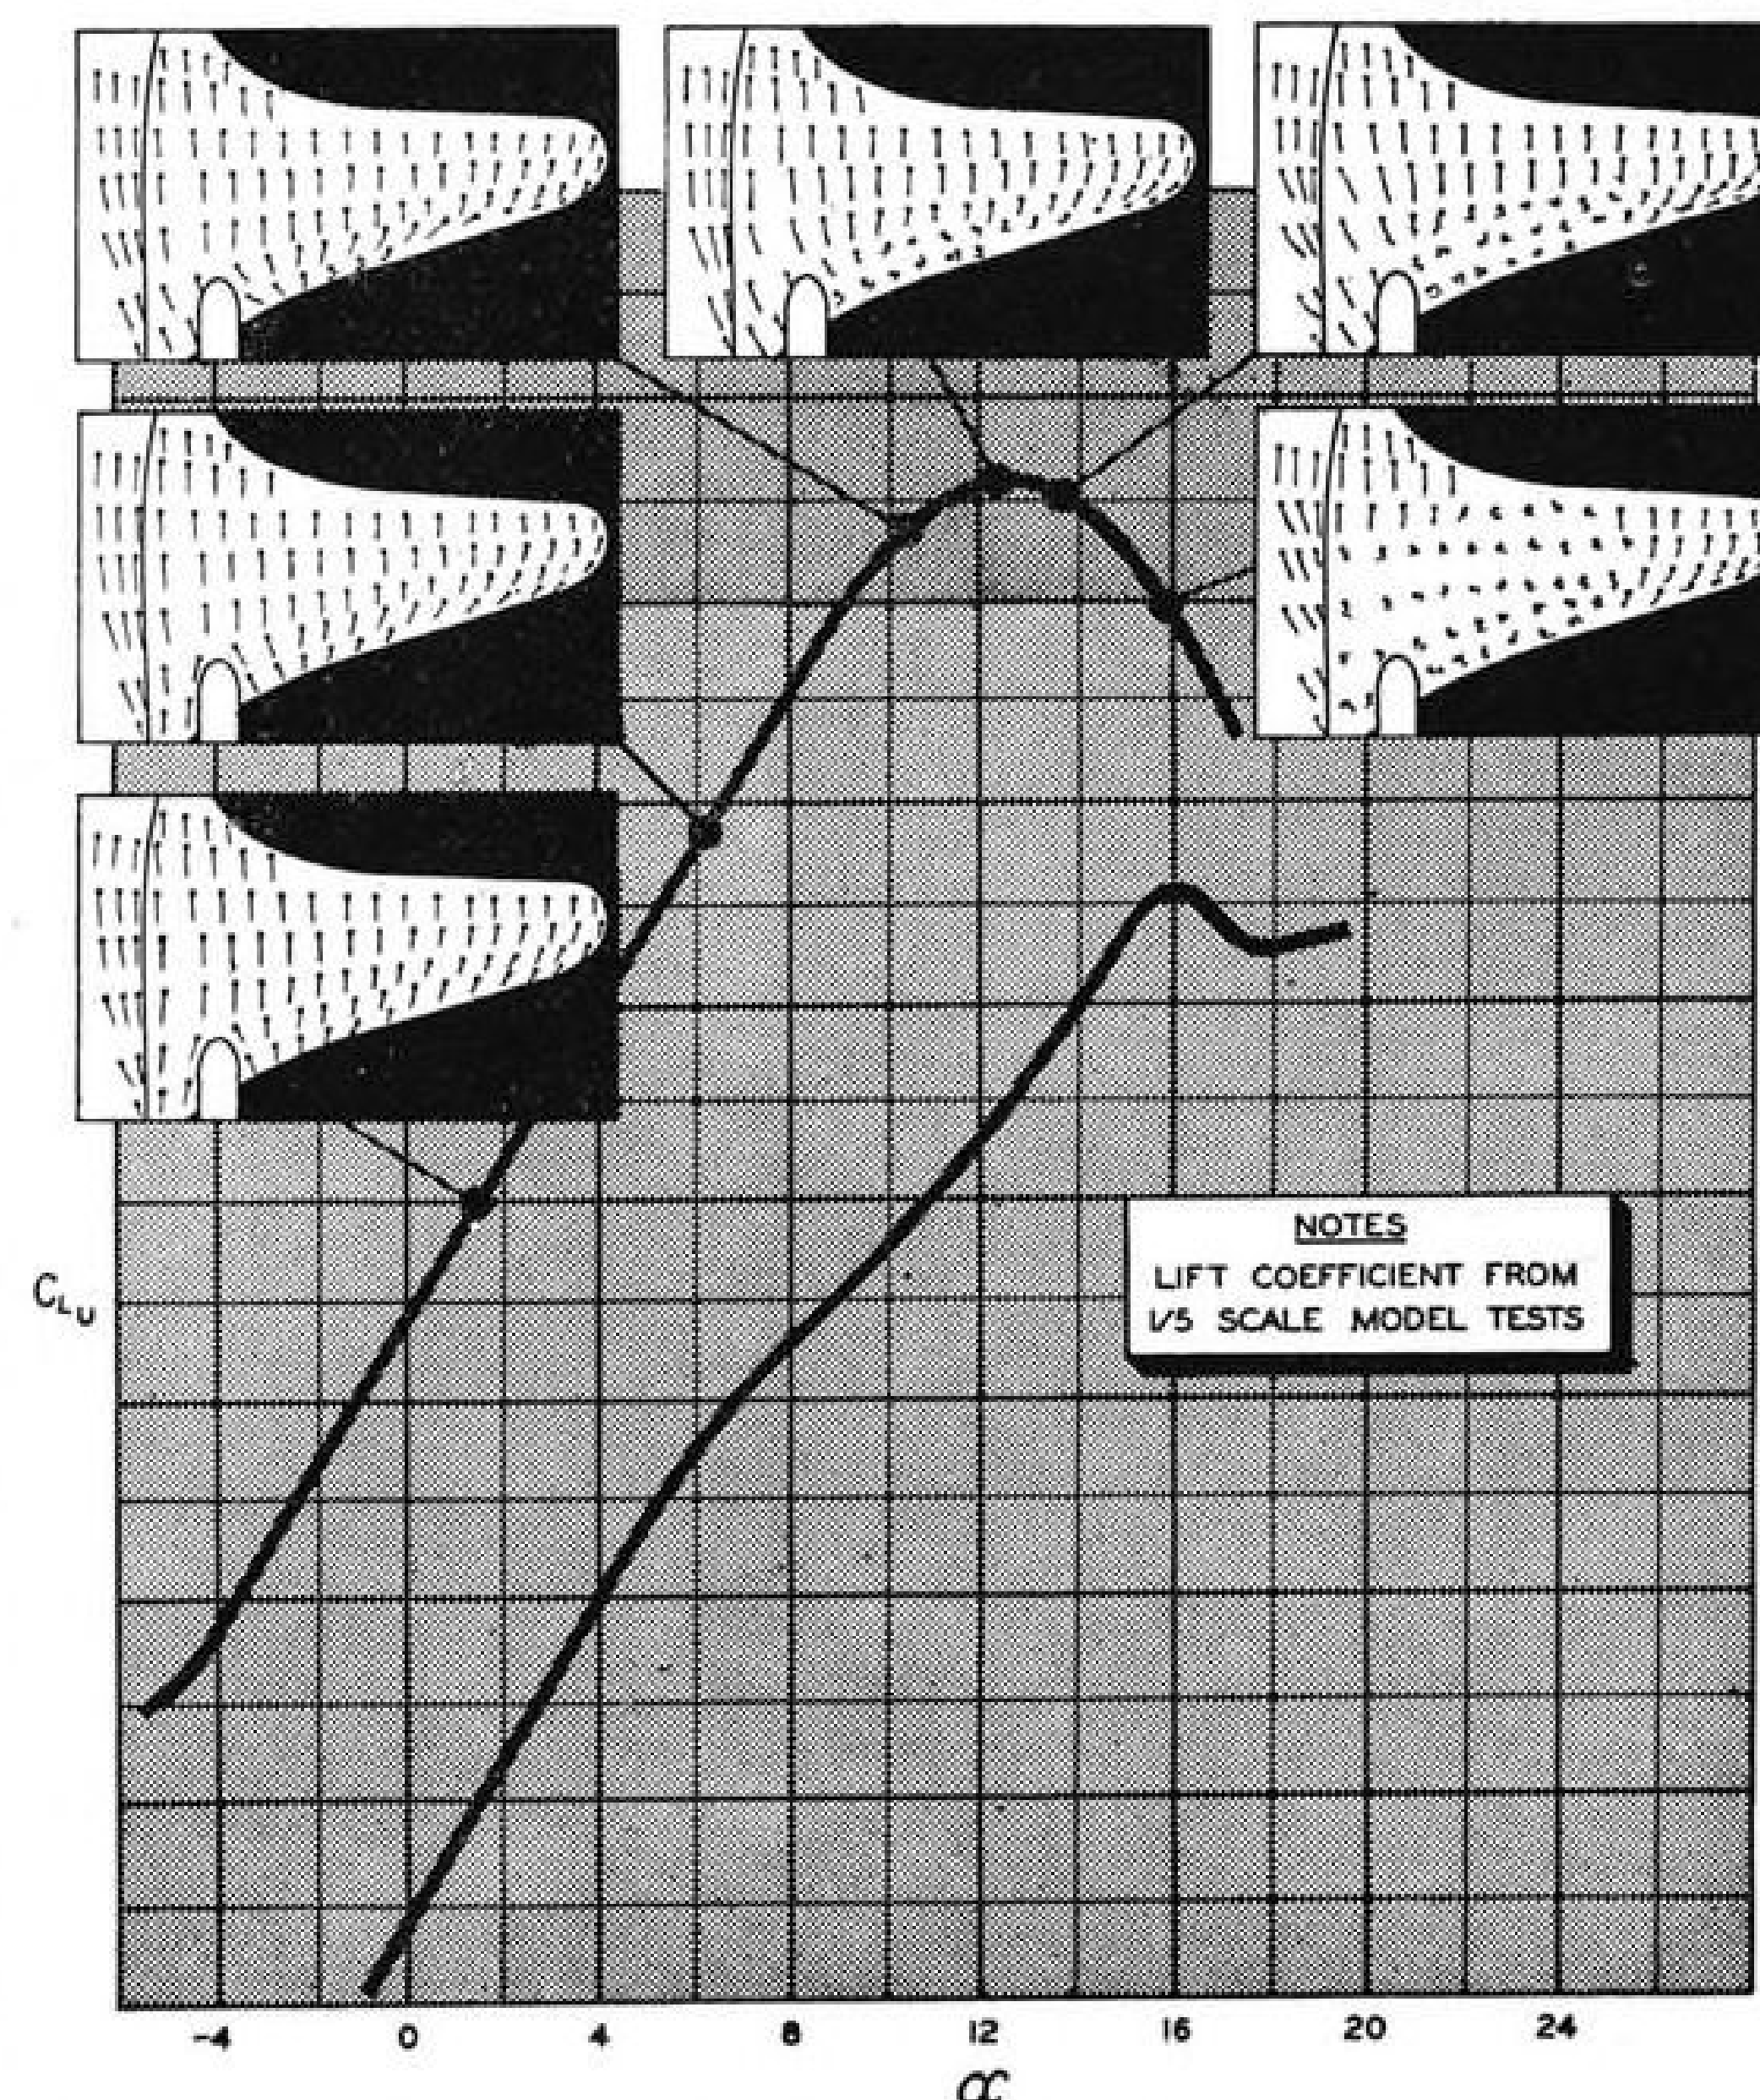

Fig. 5. Lift curve for the the filleted wing.
*Aerodynamically the large fillets have proved to be fully satisfactory. Fig. 5 gives a typical lift curve at model scale with stall patterns shown by tufts. The first stalling occurs at the trailing edge outboard of the engines and progresses from this point gradually forward, outboard, and inboard. The area over the engines and the area ahead of the ailerons do not stall until well past the lift curve peak.